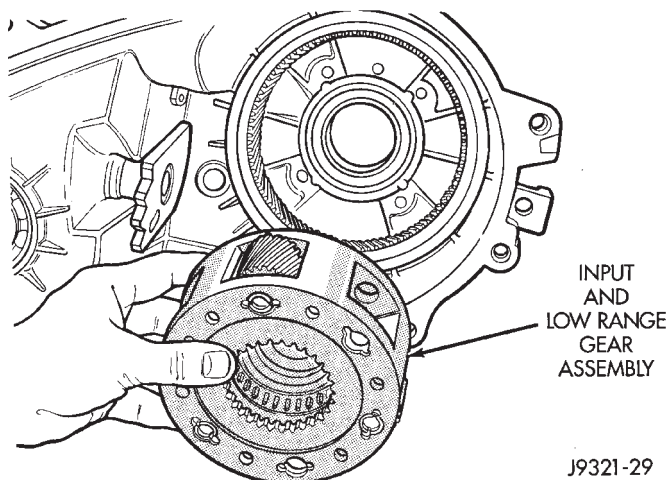

Fig. 29 Removing Input And Low Range Gear Assembly
(30) Remove input and low range gear assembly (Fig. 29).